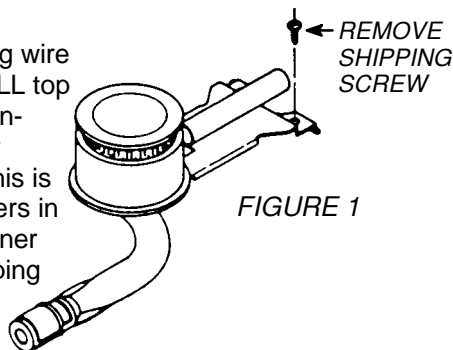

FIGURE 1
- i. Remove shipping wire or screw from ALL top burners. (Conventional top burner models only). This is to hold the burners in place on the burner bracket for shipping purposes only. (See figure 1).